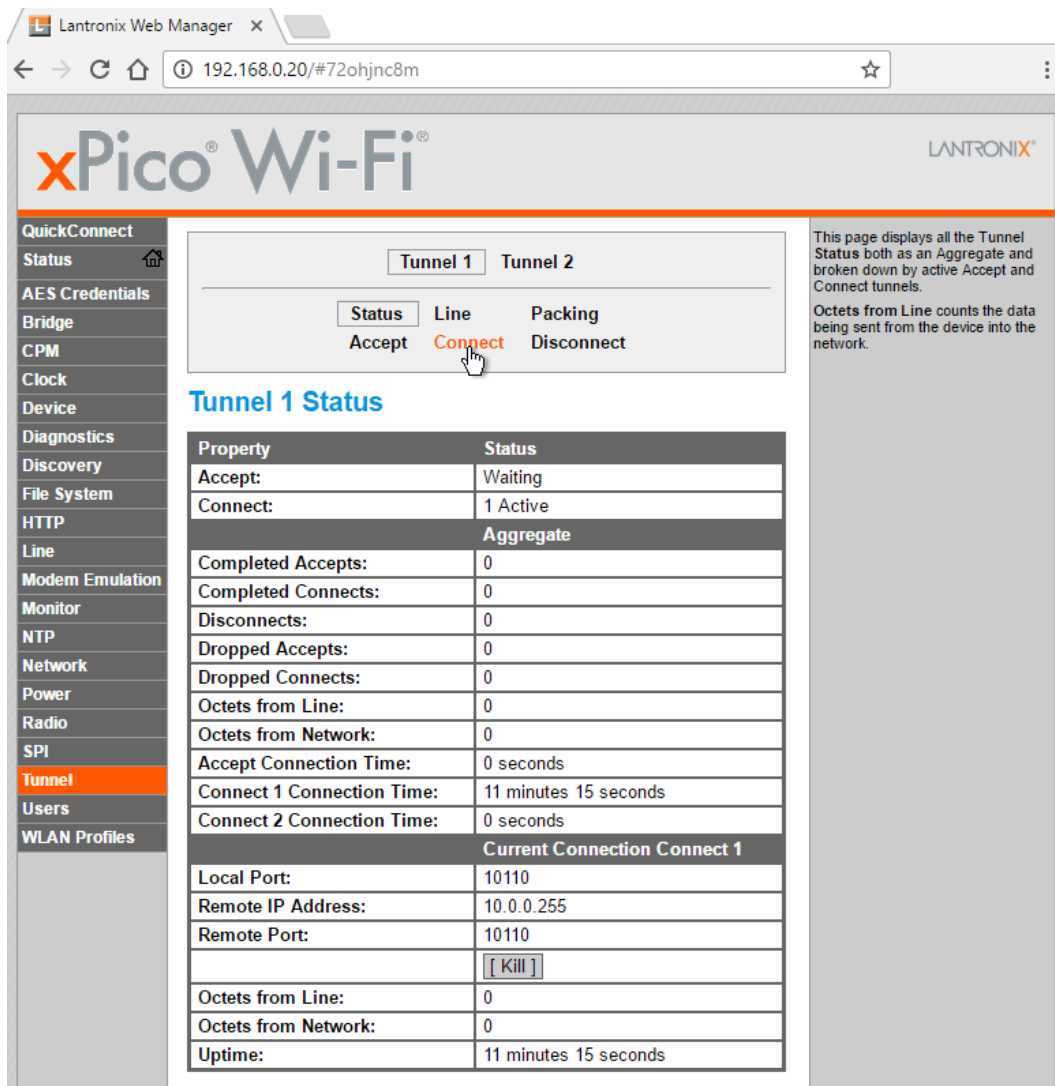

Figure 33
- You can see the new IP address of the MiniPlex-3Wi in the red outline in Figure 32. This is the address you need to enter in your navigation app to connect to the MiniPlex-3Wi. At this point, you can only connect to this IP address using TCP. The UDP server is still linked to the access point (ap0) interface of the MiniPlex-3Wi and cannot be active on both the access point and the client interface (wlan0) at the same time. If you need UDP to work while the MiniPlex-3Wi is connected to your access point, another setting needs to be changed. To do this, write down the IP address including the number after the slash ("/"). Then Click on **Tunnel** in the menu to go to the **Tunnel 1 Status** page (Figure 33).